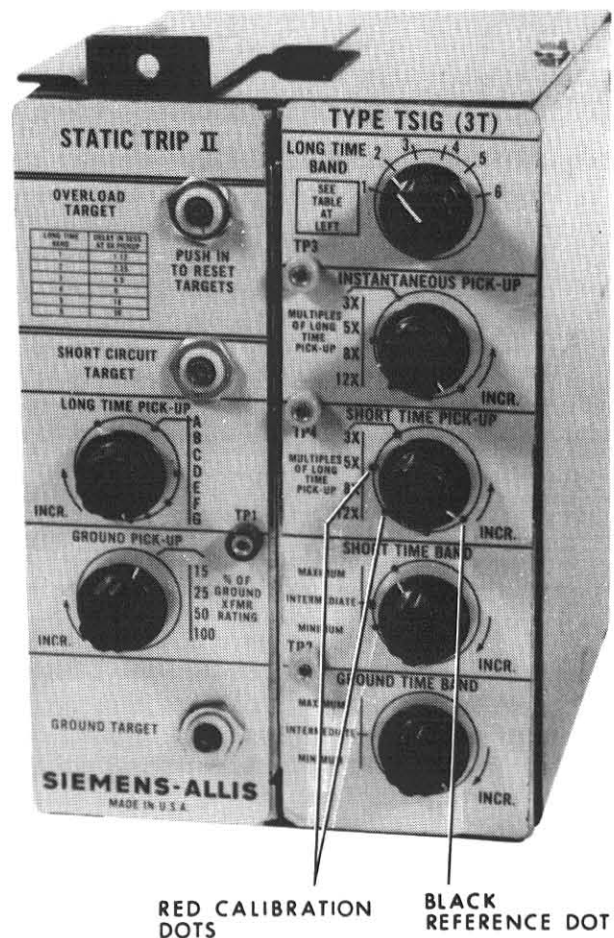

Figure 9. — Calibration Marks
The type designation is coded to indicate the functional elements: T = LONG-TIME delay element, S = SHORT-TIME delay element, I = INSTANTANEOUS element, G = GROUND current element, (T) a single TARGET that indicates tripping on ground current, (2T) two TARGETS that indicate tripping on SHORT CIRCUIT or OVERLOAD (Long Time) current, and (3T) for three TARGETS that indicate tripping on OVERLOAD, SHORT CIRCUIT or GROUND current. For each element except INSTANTANEOUS there are two adjustment knobs on the front of the device, one for pick-up setting and one for delay setting. The instantaneous element has only one knob for pick-up setting. See Figure 9. Following are brief descriptions of the different types.
Figure 9 is an illustration of the type TSIG (3T) device which contains all Static Trip II control options. The following paragraphs discuss the calibration and use of these controls.